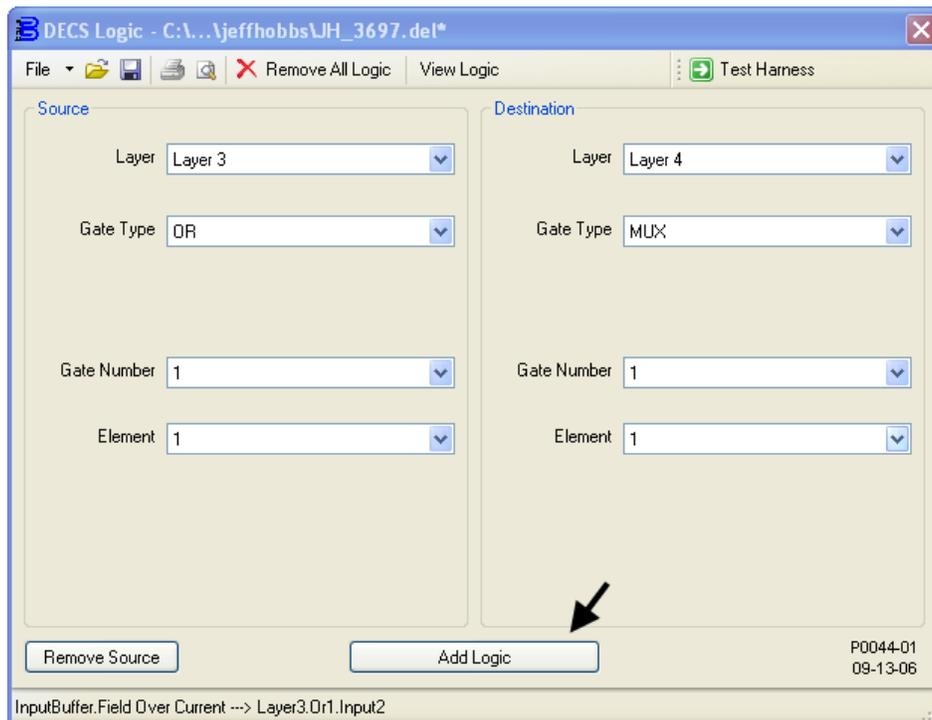

Figure 9-22. Addition of Layer4 - Layer3.Or1.Output ----> Mux1.Input
- Figure 9-22 illustrates the DECS Logic window settings associated with this step. Connect the output of OR gate 1 on layer 3 to the input of multiplexer 1 on layer 4. In Table 9-2, this association is identified by “DESTINATION: Layer4 – Layer3.Or1.Output → Mux1.Input”.